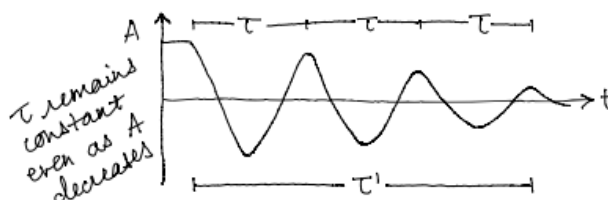

Figure 3: Typical graph for one run of R's
3. Let reach equilibrium pressure  $P_0$  (state A from lab manual Fig. 3)
Goal: measure  $\tau$  (Fig. 3). For more accuracy, measure  $\tau'$  (over all oscillations) and divide by number of oscillations.